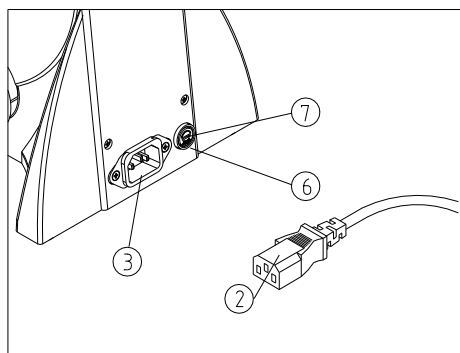

Fig. 9
Insert the female end of the power cord plug ② securely into the power cord socket ③ on the back of the microscope (Fig. 9).
Using a flat head screwdriver, remove the fuse holder ⑥ (Fig. 9), and unscrew the old fuse and insert the new fuse. Replace the fuse holder ⑦ and retighten with the screwdriver.